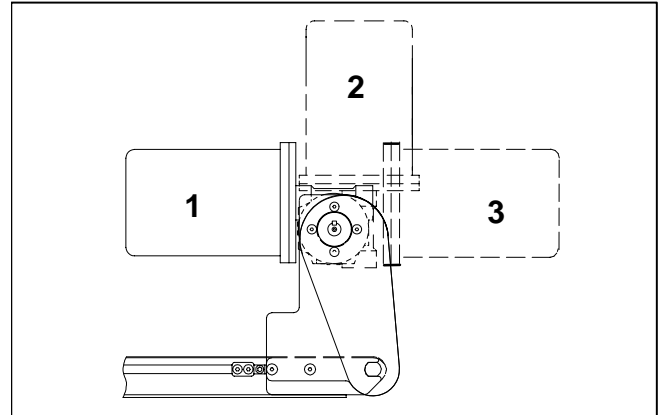

Figure 3
**NOTE:** Gearmotor may be operated in positions 1, 2 or 3 (Figure 3).